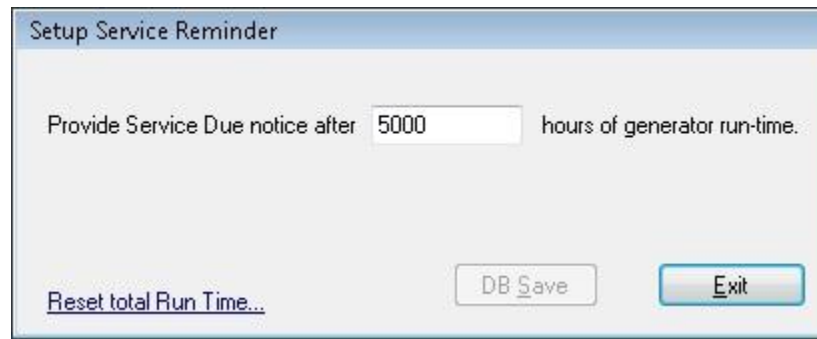

Figure 3-16. Setup Service Reminder screen
7. Click **Setup > Service Reminder** (or press **F8**). The Setup Service Reminder box will appear (Figure 3-16 below). It is recommended that the service reminder be set at 5000 hours. Click **DB Save** to save the change.